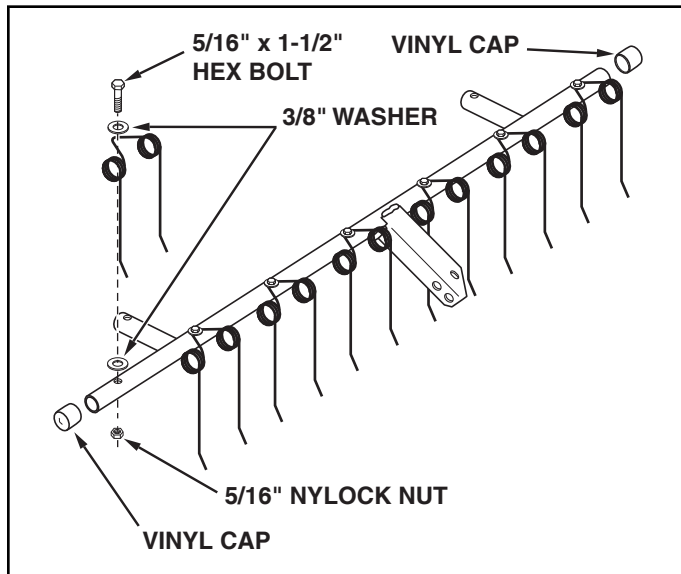

FIGURE 1
1. Assemble seven spring tines to the top of the frame tube. Use a 5/16" x 1-1/2" hex bolt, two 3/8" flat washers and a 5/16" nylock nut for each spring tine. Place one 3/8" flat washer on top of the frame tube and the second 3/8" flat washer on top of the spring tine. See figure 1.
2. Assemble a vinyl cap onto each end of the frame tube. See figure 1.